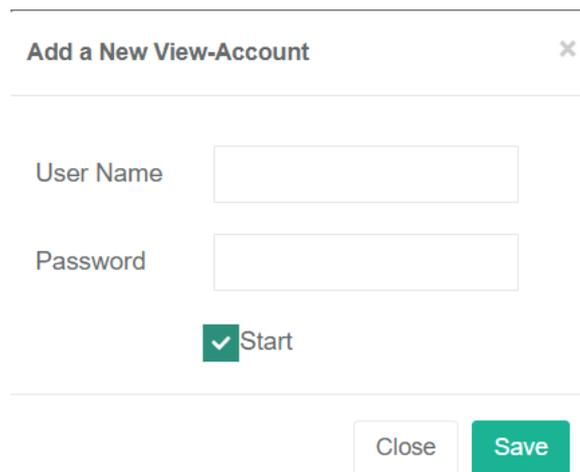

Figure 6-3
- 2) Click “Add an new view account” to pop up screen as shown in Figure 6-3;